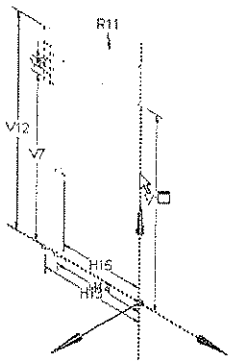
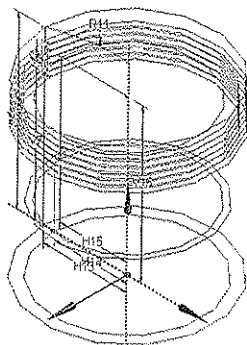

Figure 4-39 Selecting the Y-axis as the axis of revolution
Figure 4-40 Preview of the revolve feature
6. In the **Graphics** window, select the Y axis, as shown in Figure 4-39; the preview of the revolve feature is displayed in the **Graphics** window, as shown in Figure 4-40.